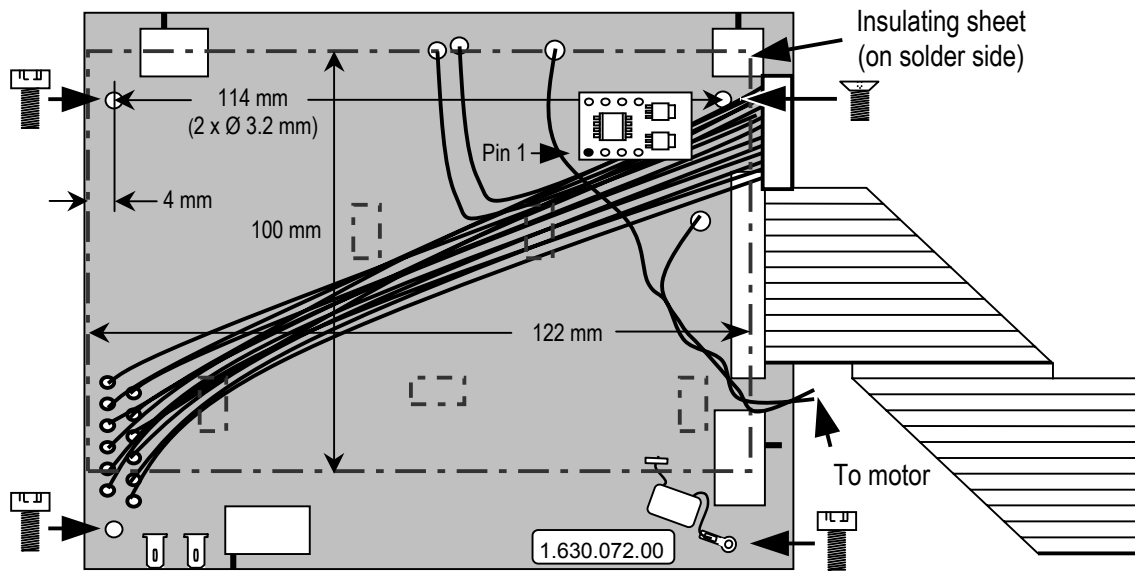

Fig. 1: Servo Board (assy. no. changed from 1.630.051.86 to 1.630.072.00 after modification)
- The 100 nF capacitor (59.03.2104) is connected to TP19 (HF-RET); its second terminal is soldered to the solder lug (29.26.1002), refer to fig. 1. Test points TP2 and TP3 must be bent by 90°, refer to fig.1; we urgently recommend to unsolder them before bending.
- Solder the pre-fabricated wires (1.630. 114.93) to the corresponding solder pads according to the table below and to fig. 1 (at the former positions of connectors J1 and J3). Tie the cables with the wire straps (35.03.0109) according to fig. 4 and 5. Solder the two twisted wires (brn, blk) to the corresponding pads on the PCB (refer to the table below and to fig. 1).
- Solder the small Driver Brush Motor PCB (1.630.075.00) at the location of IC6. The ZIP connector for the flex PCB and its wires will be located between the Driver Brush Motor PCB and the Servo Board, therefore please leave sufficient space between the two PCBs. For details please refer to fig. 1 and 4.
- Cut a rectangular insulating sheet (dimensions: 122 x 100 mm) out of the insulating sheet put aside before; refer to fig. 1. Fix this insulating sheet as shown in fig. 3 to the solder side of the Servo Board, using five pieces of the double-sided adhesive foam tape contained in the kit. The foam tape has to be positioned according to fig. 1 and 3; press the insulating sheet firmly to the foam tape.
- Fold the flat ribbon cable as shown in fig. 1. Stick the label “1.630.072.00” over the label “1.630.051.86” and solder the two twisted wires to the motor’s soldering tags (brn wire to red dot).